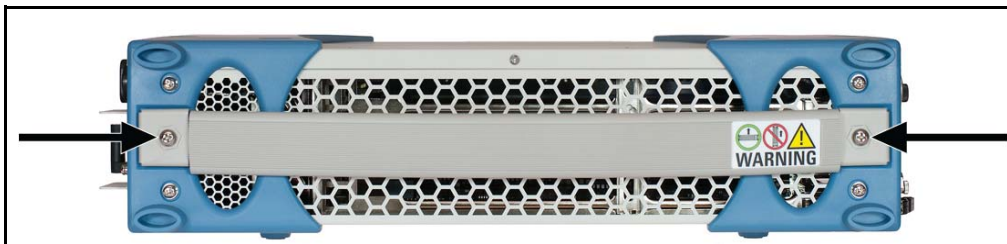

Figure 1 . Removing the Carry Handle
- 1 The M9502A AXIe chassis has a single carry handle which must be removed before removing the bumpers. Remove the two #2 Phillips screws securing the handle. See Figure 1.